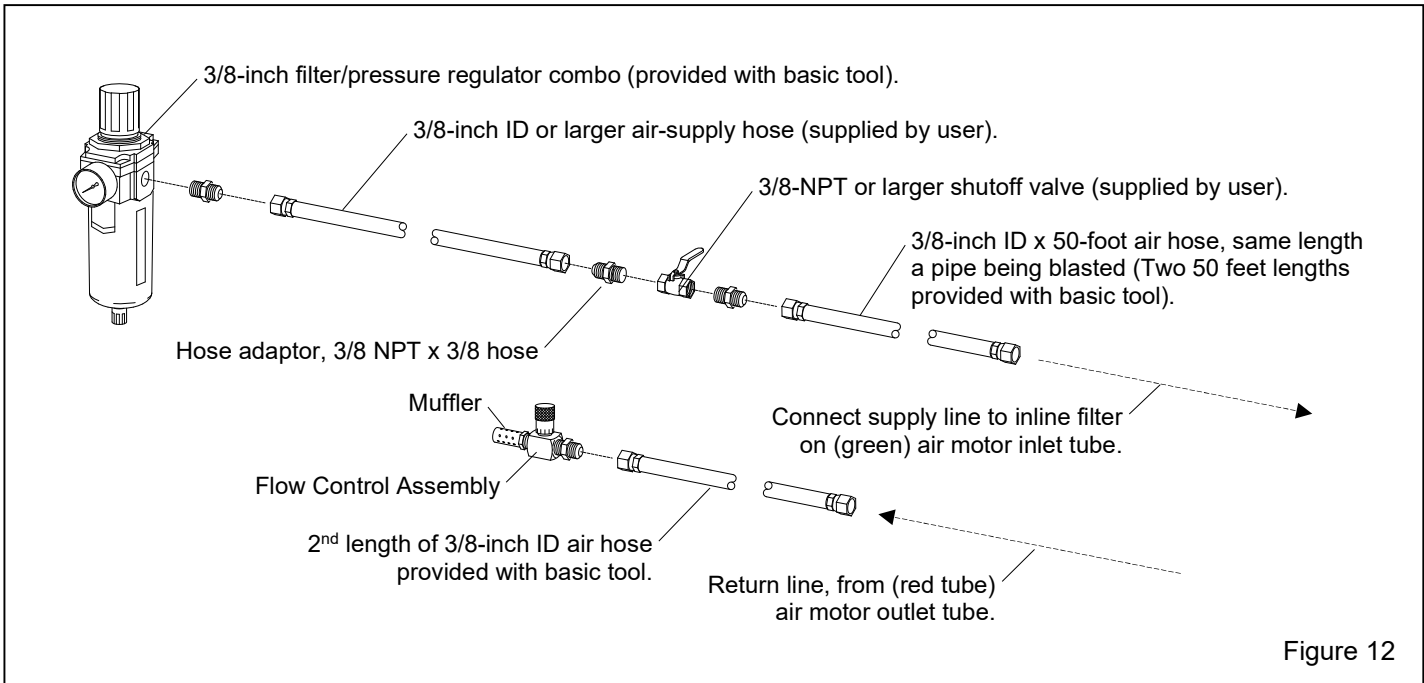

Figure 12
5.3.2 Refer to Figure 12 and set up an air supply to the 3/8" x 50' air hose provided with the tool.
5.3.4 Attach one 3/8" air hose from the air supply (filter/regulator) to the air motor inlet-tube connector, as shown in Figure 12. The inlet tube is identifiable by its green color and inline filter. The hose must be long enough to reach between both ends of the pipe being blasted; attach additional lengths of hose as needed.